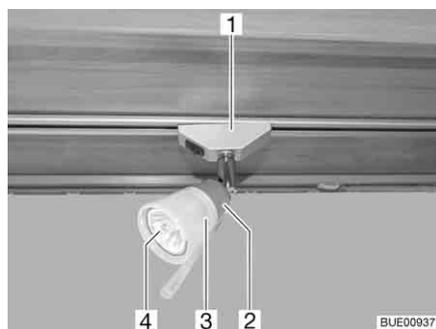

Fig. 277 Halogen spotlight (movable)
- Turn the halogen spotlight (Fig. 277,1) by 90° and remove from rail.
- Turn the lamp shade (Fig. 277,3) in an anticlockwise direction.
- Withdraw lamp shade complete with halogen bulb (Fig. 277,4) carefully from the holder (Fig. 277,2).